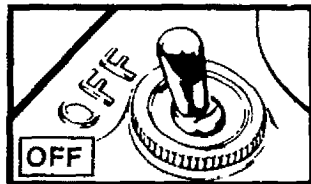

Figure 8
5. Stop engine by moving the ignition switch to the "OFF" position (Figure 8).